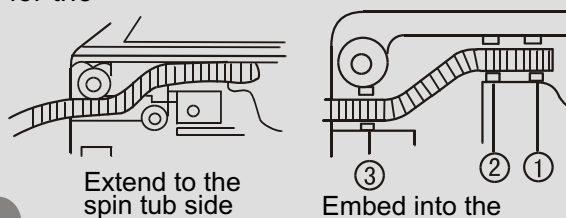

Figure 3
- Embed the drain hose into the groove along the side of the spin tub in the order of (1)~(3), heading for the side of the spin tub. (See to Figure 3).